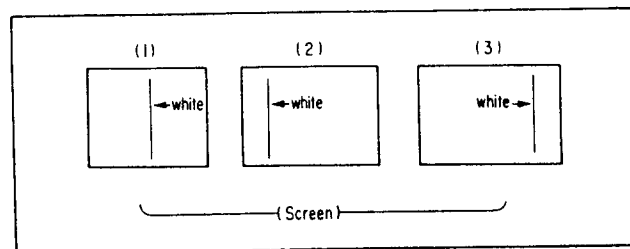

Fig. 2-3-3 H. CONV.
- 4) Rotate the H. STAT VR inside the high voltage block and adjust so that any misconvergence on the vertical lines in the center of the screen disappears. And adjust RV21 through RV25 (H. CONV) until the vertical line of the center is white. (see Fig. 2-3-3 (1))
- 5) Rotate RV16 through RV20 (H. CONV) and adjust until the vertical line on the left side of the screen is white. (see Fig. 2-3-3 (2))
- 6) Rotate RV26 through RV30 (H. CONV) to adjust the vertical line on the right side of the screen to white. (see Fig. 2-3-3 (3))